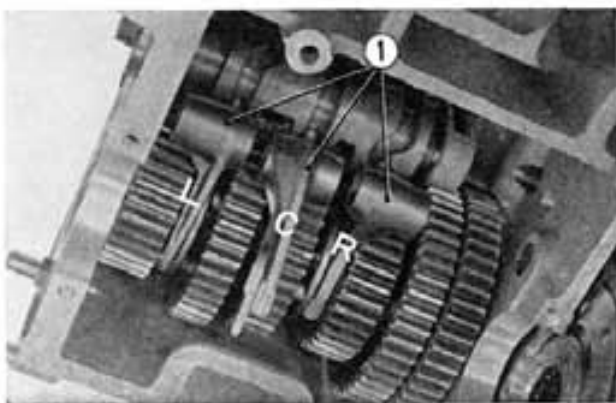

Fig. 5-16 ① Gear shift forks
6. Gear shift forks are stamped with the letters "R", "C" and "L" on the side. Assemble the forks as shown in Fig. 5-16. The forks stamped with "R" and "L" are for use with the countershaft, therefore, the fingers of those forks are fitted into the groove in the C-4 and C-5 gears. The "C" stamped fork is used with M-2/3 gear. The dog located on the back side of the fork is fitted into the groove in the gear shift drum.